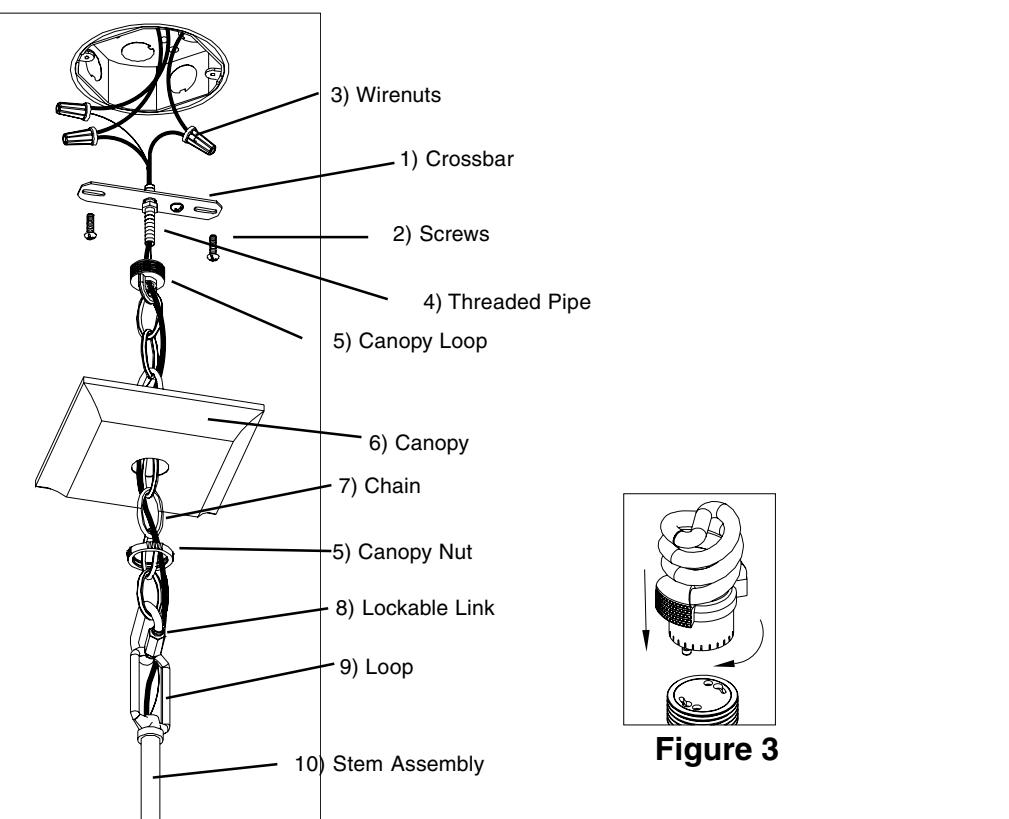
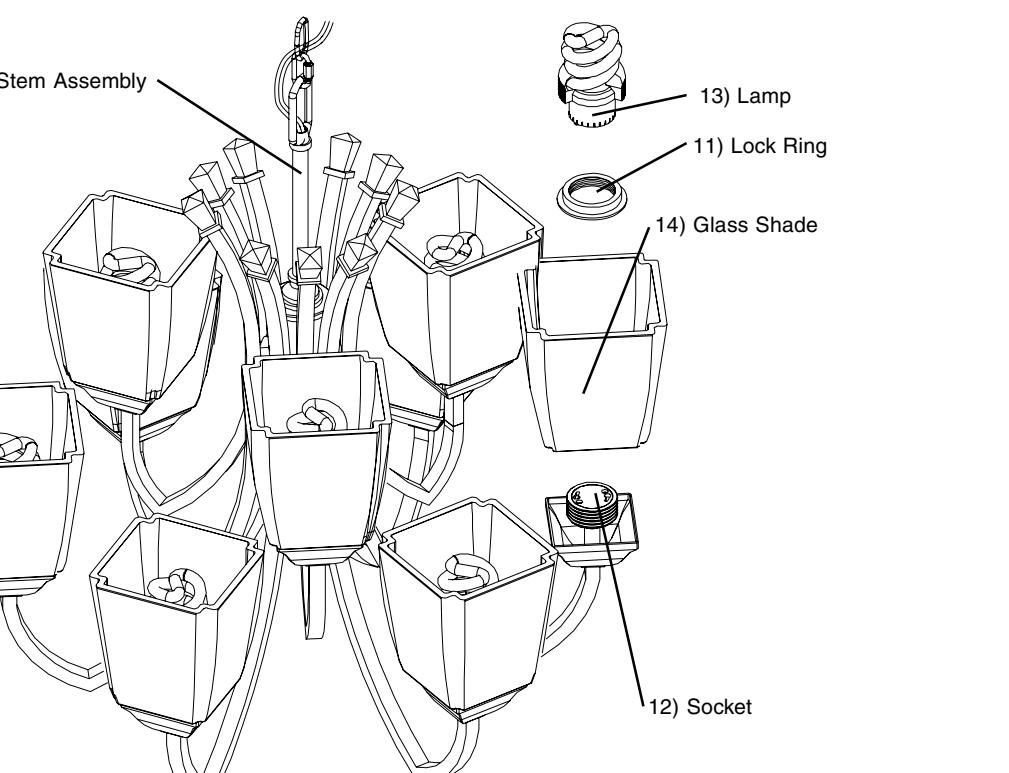

Figure 1
Figure 2
3. Assemble mounting hardware: Thread Threaded Pipe (4) about 1/2" into center hole of Crossbar (1). Hold short end of Threaded Pipe and place Canopy (6) over opposite end (Note: Crossbar will be inside of canopy). See Fig. 1.
5. Take fixture assembly by the Chain, loosen Canopy Nut completely and slide Canopy down. Have one person help to support fixture while mounting Crossbar (1) to junction box with two 1-1/2" Screws (2). See Fig. 1.
7. Use Wirenuts (3) to connect brown or clear fixture wire to the black power supply wire and brown or clear ribbed fixture wire to the white power supply wire. See Fig. 1.
3. Ensamble el hardware de montaje: Rosque el Tubo Roscado (4) alrededor de 1/2" en agujero de centro de la Barra Transversal (1). Sostenga el extremo corto del Tubo Roscado y coloque el Espaciador de Sobrecielo (6) sobre el extremo opuesto (Nota: La Barra Transversal estará dentro del Espaciador de Sobrecielo). Vea Fig. 1.
4. To determine desired length of chain use Lockable Link (8) and hook Chain temporarily to Loop (9). Hold fixture up to ceiling to determine desired length of Chain and remove links if needed.
Note: Use pliers to remove links to adjust Chain to desired length or call Technical Support to purchase additional chain. Attach end link of Chain (7) to Loop (9) with Lockable Link (8). Route the ground & fixture supply wires through every fourth link of chain and through center of 1-1/2" Threaded Pipe (4) in Crossbar. Trim ground & fixture supply wires to extend approximately 6" beyond Threaded Pipe and strip 1/2" insulation from ends of wires. See Fig. 2.
5. Agarre el ensamblaje del luminario por la Cadena, suelte la Tuerca del Espaciador de Sobrecielo totalmente y deslice el Espaciador hacia abajo. Haga que una persona ayude a sostener el luminario mientras este montando la Barra Transversal (1) a la caja de ensambladura con dos Tornillos de 1-1/2" (2). Vea Fig. 1.
7. Use Capuchones de Alambres (3) para conectar el alambre marrón o transparente del luminario al alambre de suministro de energía negro y el alambre del luminario acanalado marrón o transparente al alambre de suministro de electricidad blanco. Vea Fig. 1.